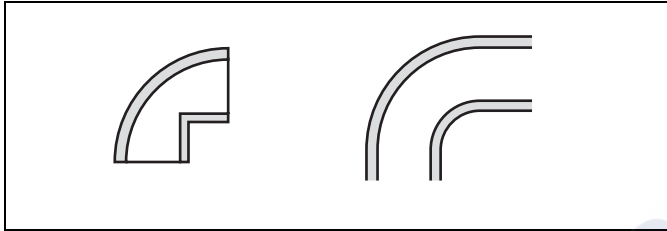

Fig. 39: Elbows, cast (left) and bent pipe (right)
- Max. one piece cast 90° elbow is allowed. Pipes with more than one 90° bends are allowed. See Fig. 39.